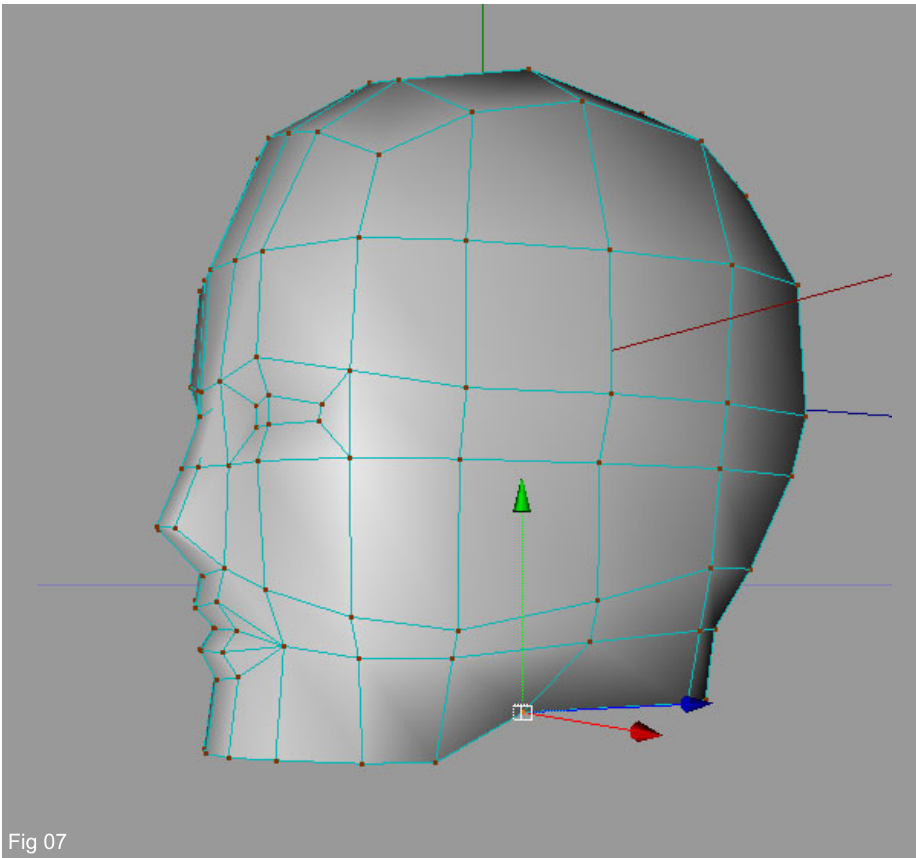

Fig 07
7. The features are now beginning to form, albeit in a rather crude way but there is still no evidence of a chin so pull up some of the lower verts to alleviate this (Fig 07).